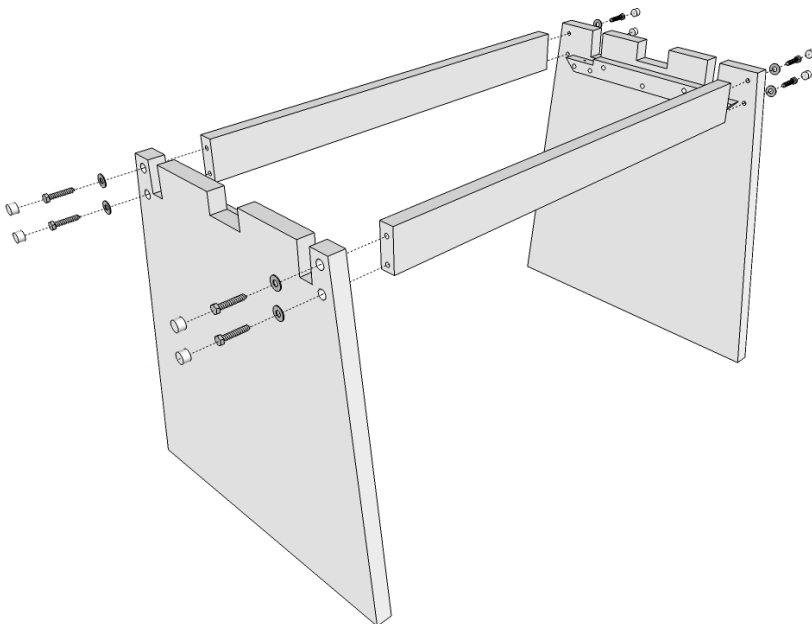

FIGURE 1
- 1) **LOOSELY** ATTACH THE STRETCHERS TO BOTH LEGS USING THE HOLES IN EACH LEG WITH **8 - 2" LAG BOLTS**. MAKE CERTAIN THE COUNTERSUNK (WIDER END OF HOLE) SIDE OF EACH LEG IS FACING OUT (*FIGURE 1*).